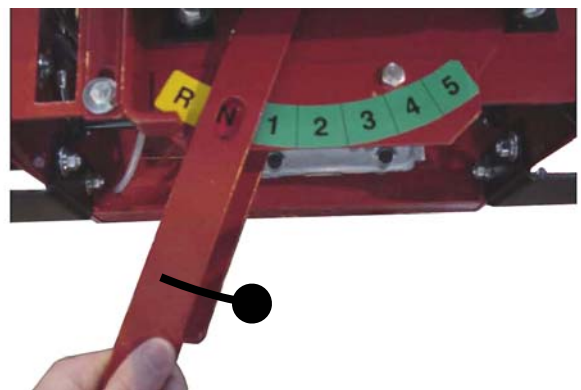

FIGURE 3.17
2. Move Transmission Shift Lever in No. 1 position (first gear). See Figure 3.17.